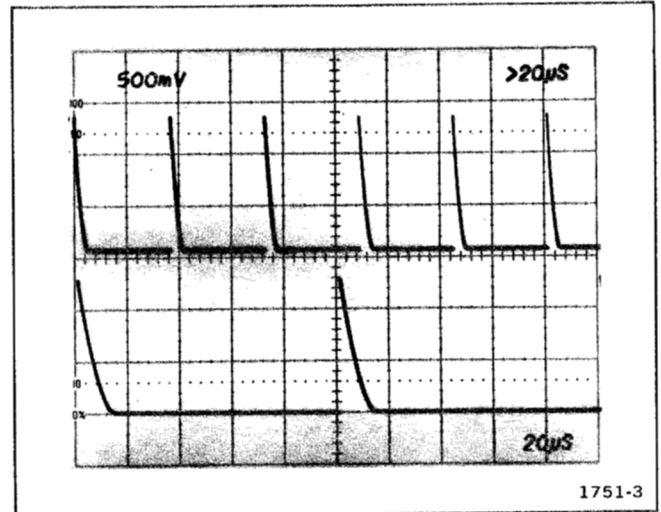

Fig. 5-14. Variable Time/Division range.
- i. Check—with VARIABLE control released and turned fully counterclockwise, at least two Delayed sweep markers (bottom) to one Delaying sweep marker is visible. Refer to Fig. 5-14.